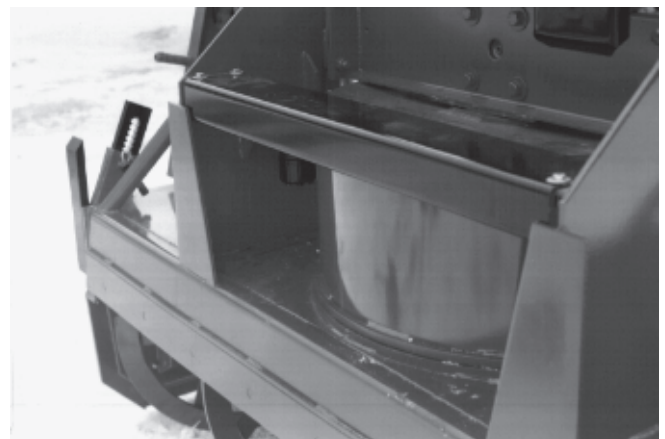

Figure 22
- 1) Tip the Snowblower forward (gear box facing up) and remove the guard protecting the ring gear segment (Fig. 22). Remove the elbows.
- 6) Install guard (Fig. 22).